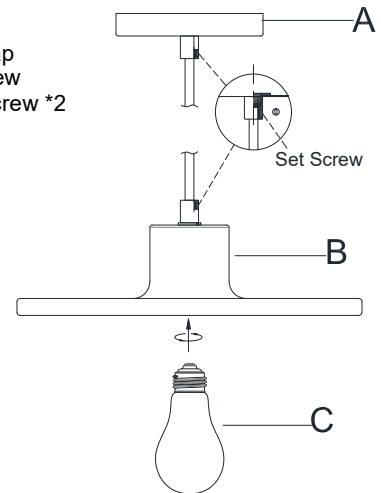

Fig. 2
HANGING THE FIXTURE (Fig. 2)
8. Raise canopy (A) over canopy screws and secure with cap nuts. (Fig.2)